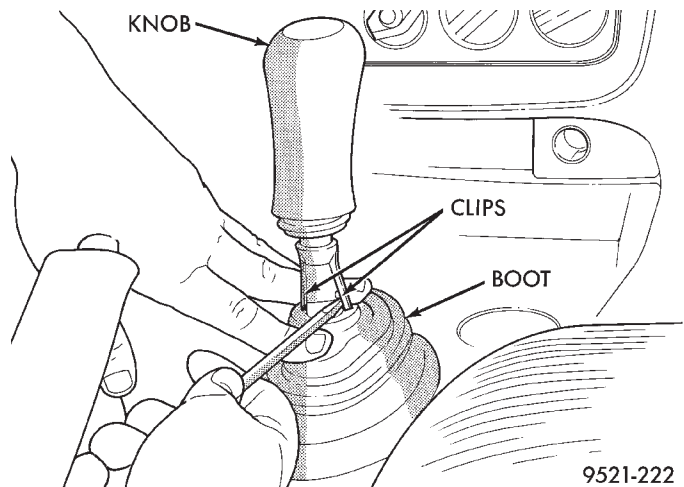

Fig. 7 Gearshift Knob
- (1) Pull shifter boot down and away from shifter roll pin.
- (2) Pry legs of shift knob away from shift lever roll pin using a flat blade pry tool (Fig. 7).